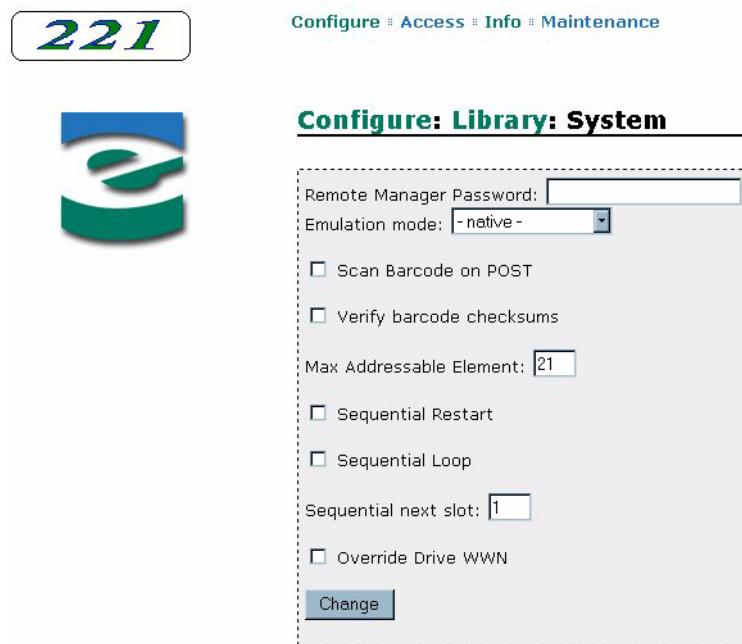

Figure 6-12 Remote management utility – Library System Configuration page
3. Click on Configure library system. A page similar to Figure 6-12 appears.